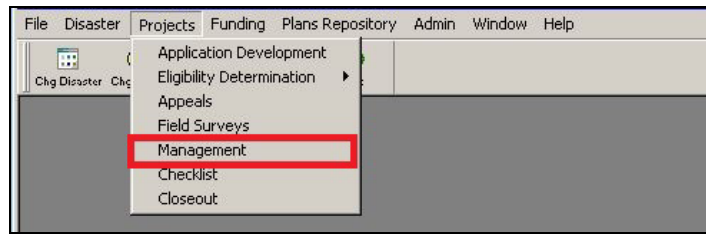

Figure 11-10: Mitigation >Projects >Management
1. On the MITIGATION menu, click on Projects > Management (Figure 11-10).